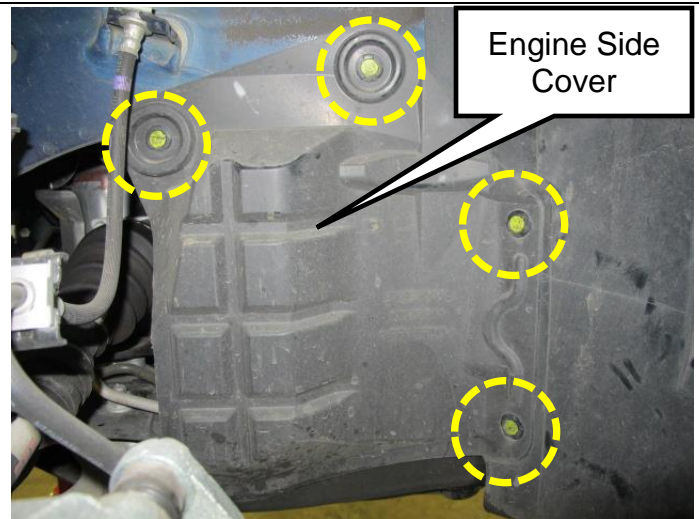

Figure 3
- Remove (4) retainer clips
- Clips are highlighted in yellow in Figure 3